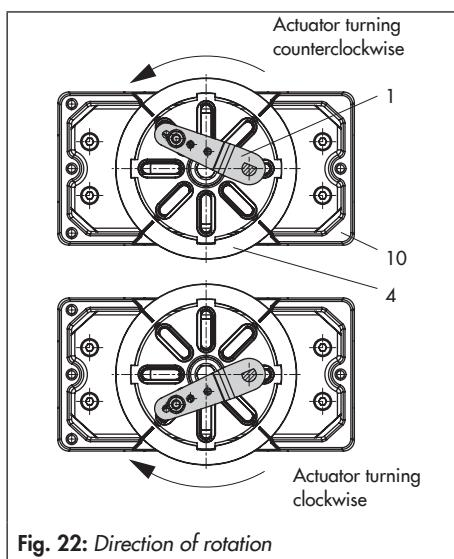

Fig. 22: Direction of rotation
2. Place coupling wheel (4) with flat side facing the actuator on the follower clamp (3). Refer to Fig. 22 to align slot so that it matches the direction of rotation when the valve is in its closed position.
3. Fasten the coupling wheel (4) and follower clamp (3) tightly onto the actuator shaft using screw (4.1) and disk spring (4.2).
4. Fasten the bottom pair of brackets (10.1) with the bends pointing either facing to the inside or to the outside (depending on the actuator size) onto the actuator housing. Position the top pair of brackets (10) and fasten.
5. Mount connecting plate (6) or pressure gauge bracket (7) with pressure gauges on the positioner, making sure the two seals are seated properly. Double-acting springless rotary actuators require the use of a reversing amplifier on the connection side of the positioner housing (see section 5.9).
6. Unscrew the standard follower pin (2) from the positioner's M lever (1). Use the metal follower pin (\varnothing 5 mm) included in the mounting kit and screw tight into the hole for pin position 90° .
7. Place positioner on the top bracket (10) and fasten tight. Taking the actuator's direction of rotation into account, adjust lever (1) so that it engages in the slot of the coupling wheel (4) with its follower pin (Fig. 22). It must be guaranteed that the lever (1) is parallel to the long side of the positioner when the actuator is at half its angle of rotation.
2. For **SAMSON Type 3278** and **VETEC S160 Rotary Actuators**, fasten the adapter (5) onto the free end of the shaft and for **VETEC R Actuator**, place on the adapter (5.1). For **Type 3278, VETEC S160** and **VETEC R Actuators**, place on the adapter (3), for **VDI/VDE version**, only use the adapter when it is required due to the actuator size.
4. Fasten coupling wheel (4) on the slotted actuator shaft or adapter (3) using screw (4.1) and disk spring (4.2).
5. Unscrew the standard follower pin (2) from the positioner's M lever (1). Attach the follower pin ($\varnothing 5$ mm) included in the mounting kit to pin position 90° .
6. Mount connecting plate (6) for required G $\frac{1}{4}$ connecting thread or pressure gauge bracket (7) with pressure gauges on the positioner, making sure the two seals (6.1) are seated properly. Double-acting springless rotary actuators require the use of a reversing amplifier on the connection side of the positioner housing (see section 5.9).
8. Place positioner on housing (10) and screw it tight. Taking the actuator's direction of rotation into account, adjust lever (1) so that it engages in the correct slot with its follower pin (Fig. 22).